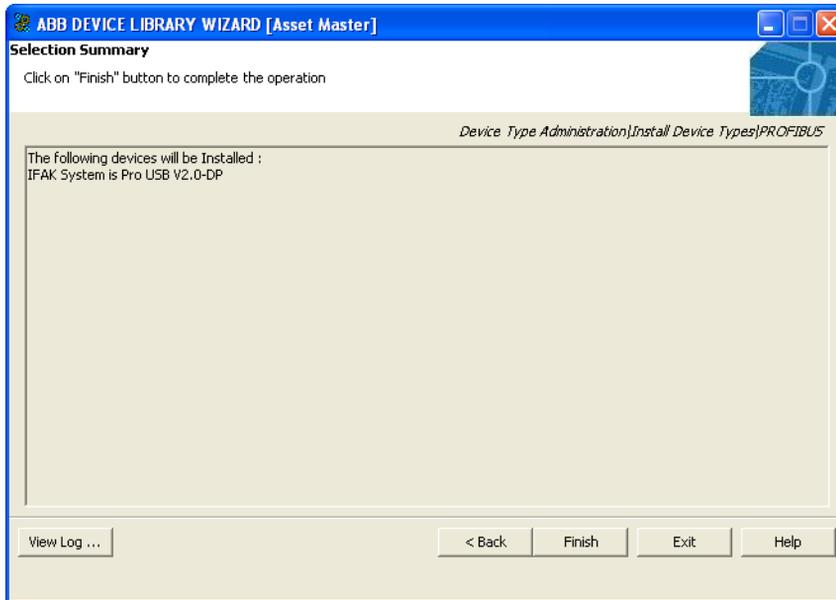

Figure 106. Device Type Selection Summary
- The resulting screen, similar to the one shown in Figure 106, displays a summary of the object types being restored. Review the report and then click **Finish** to continue to restore.